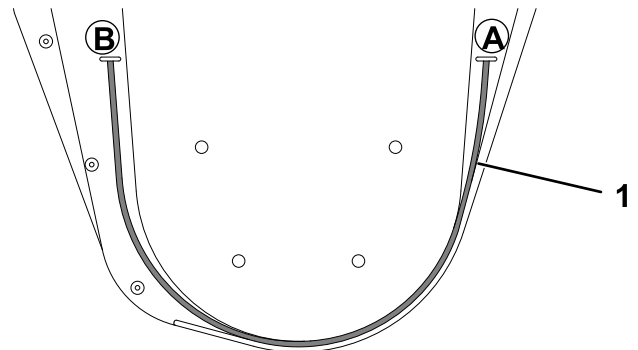

Figure 24
2. Cut new mower line to 55 cm (21-1/2 inches) or using the length guide (Figure 24) as follows: